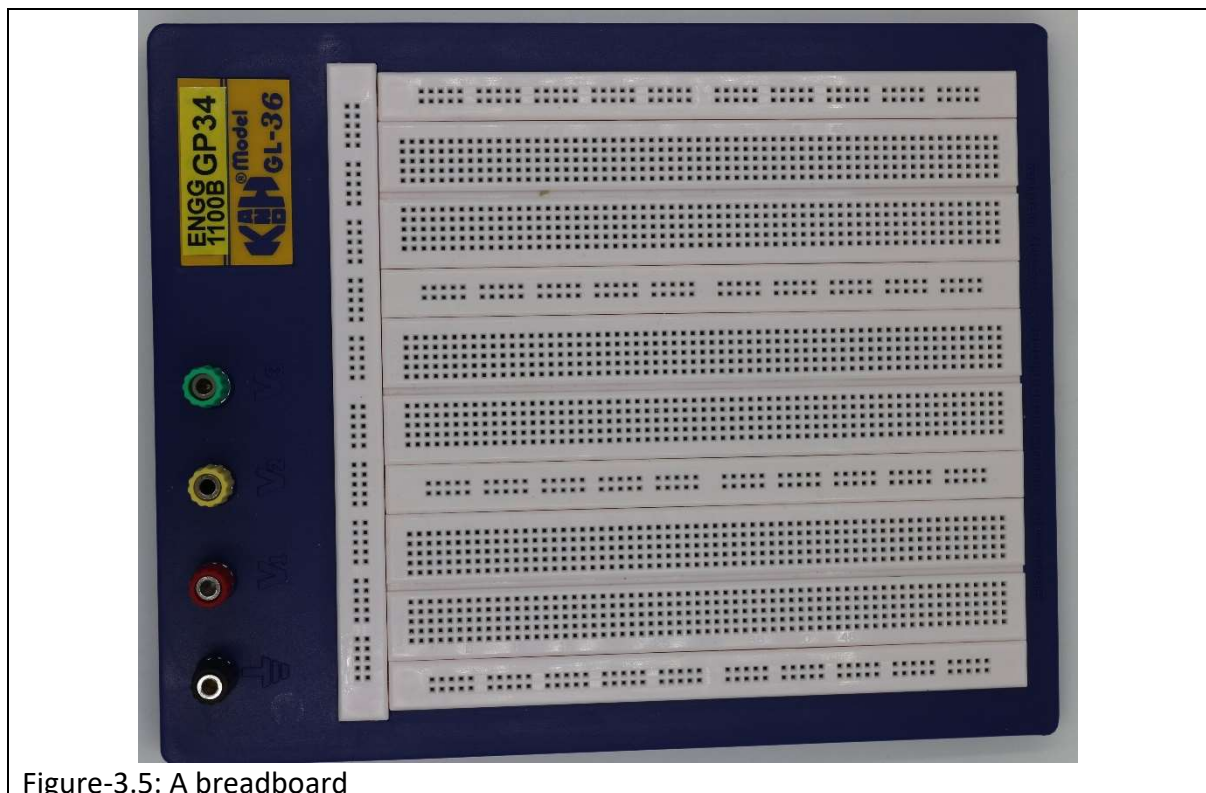

Figure-3.5: A breadboard
1. One functional breadboard (Figure-3.5);
For the breadboard shown in Figure-3.5: